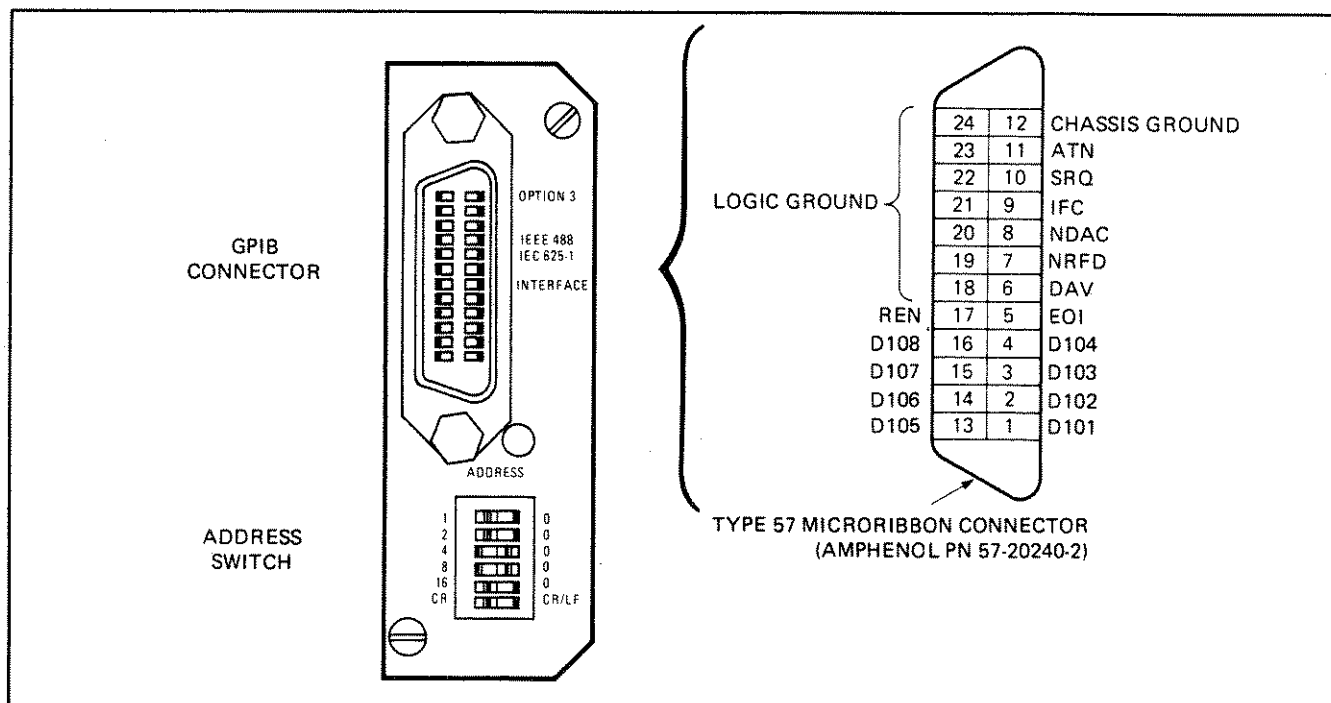

Figure 2-3. Option 3 Panel (Address Switch and GPIB Connector)
Interface between the Model 560A and other devices on the GPIB is via a 24-wire interface cable. The interface cable is specially constructed with each end containing a connector shell with two connector faces. These double-faced connectors allow for the parallel connection of two or more cables to a single device. Figure 2-3 shows the pin assignments for the Type 57 connector installed on the 560A rear panel. Table 1-4, Accessories, contains leading particulars on the WILTRON cable assemblies. The WILTRON cables may be ordered by special request. Refer to Section VI for parts-ordering information.
- Interconnection with Controller. To connect the Model 560A with the GPIB controller, connect a 1-, 2-, or 4-meter (as required) GPIB interconnect cable between the Option 3 interface connector on the 560A rear panel (Figure 2-3) and a like connector on the controller (refer to controller instruction manual to locate this connector).
Addressing the Model 560A to talk and listen is accomplished from the rear panel. The Option 3 panel (Figure 2-3), located on the rear of the Model 560A, contains a vertical row of six white ON/OFF rocker-type switches. The top five switches are used to assign the talk/listen address (talk and listen addresses use the same address number); the bottom switch is used for data delimiting (paragraph 2-4.5).
The five Option 3 address switches are arranged from top to bottom in a binary format, the least significant bit (LSB) located at the top. As shown in Figure 2-3, there are two sets of numbers assigned to switches within the ADDRESS switch row.